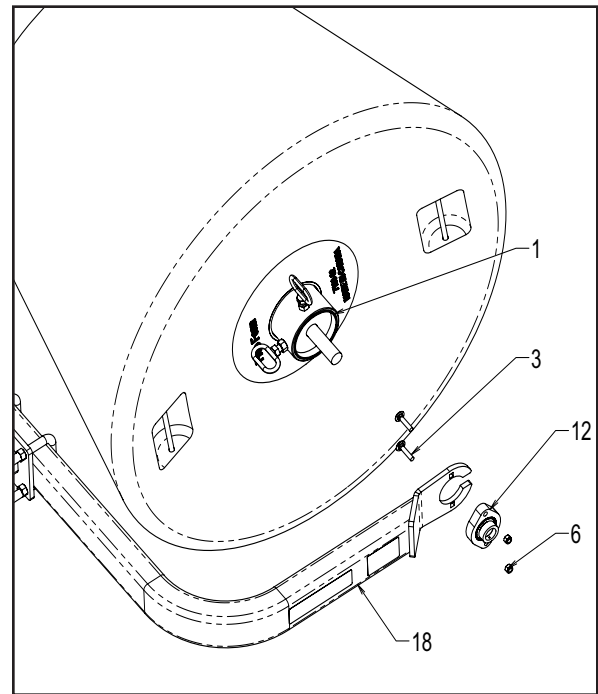

Figure 2.3 - Main Beam Bearings
Refer to *Figures 2.3 & 2.4*. The roller is pre-assembled at the factory.
1. Refer to *Figure 2.3*. Slide each bearing (#12) on the end of the roller core (#1). Bolt each bearing (#12) to each end of the main beam (#18) using 5/16" x 1-1/2" carriage bolts (#3) and 5/16" nuts (#6).